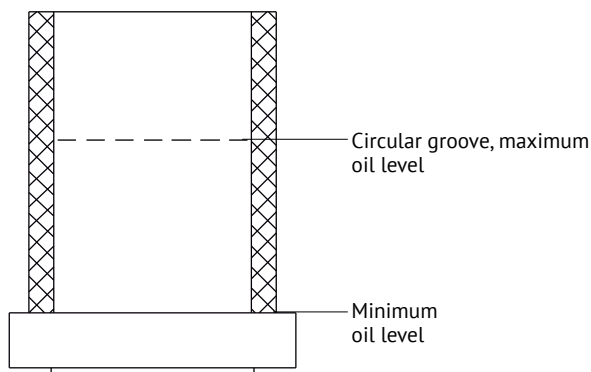

Fig. 7. Oil fill level in barrel
6.7 Fill oil in the barrel to the level not over the maximum one (Fig. 7). The pressure release valve should not be incorporated therewith.